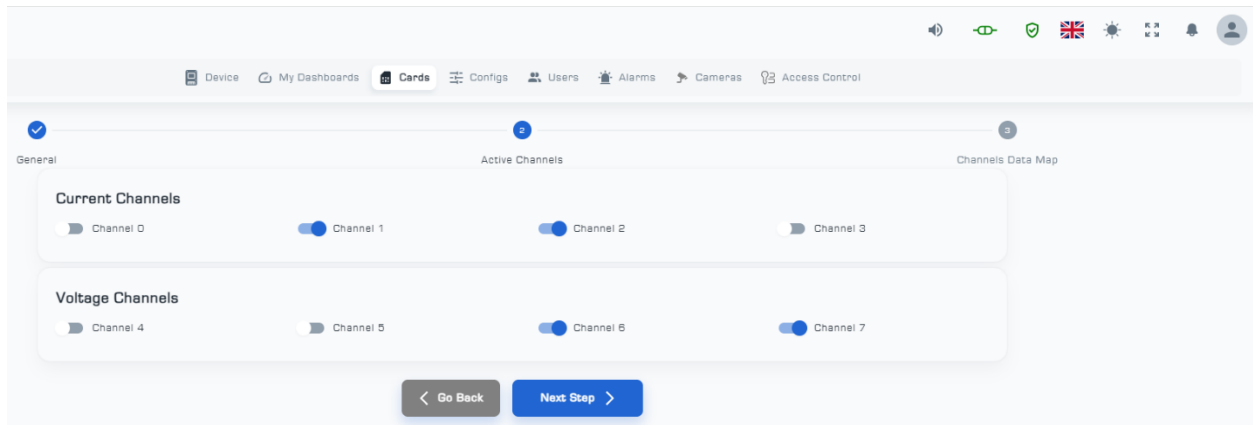

Figure 7: Active Channels Page from the Config Menu
(3) Select "Next Step" to proceed to the "Active Channels" page. On this page, voltage and current inputs are displayed separately, and you can enable or disable channels as needed (Figure 7).